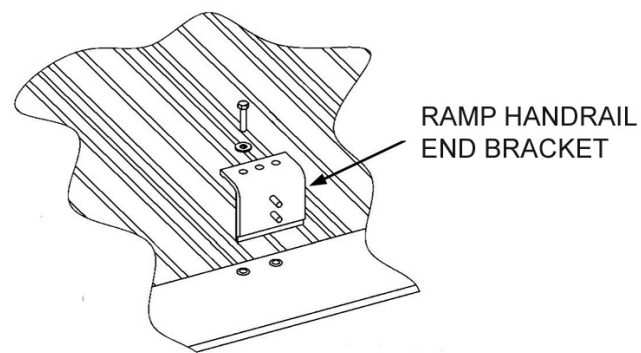

FIG. 15b
- b) For 10' ramps, two additional ramp handrail end brackets are installed using one 5/16" x 1 1/2" bolt and washer at the center of each ramp section (FIG. 15b).